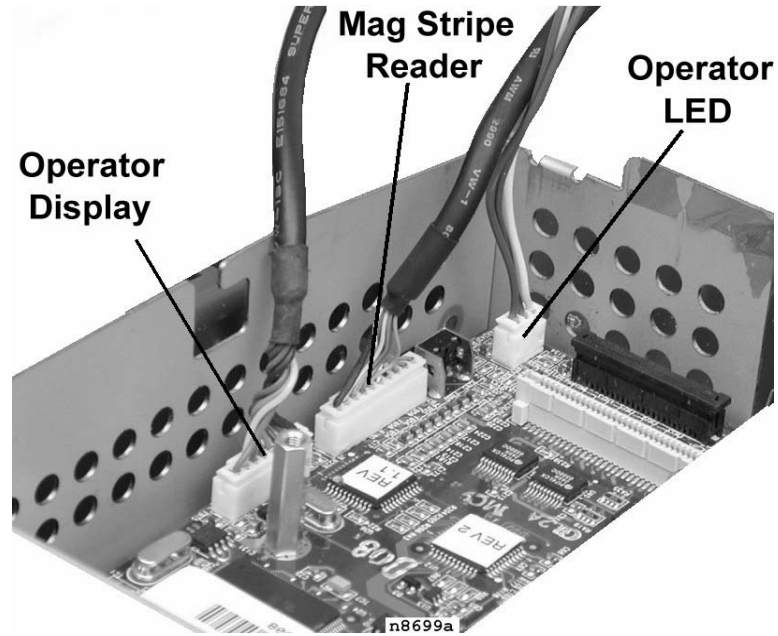

Figure 2-5: Removing Cables from the System Board
- o Carefully remove the Operator Display, Magnetic Stripe Reader, and Operator LED cables from the system board. Figure 2-5.